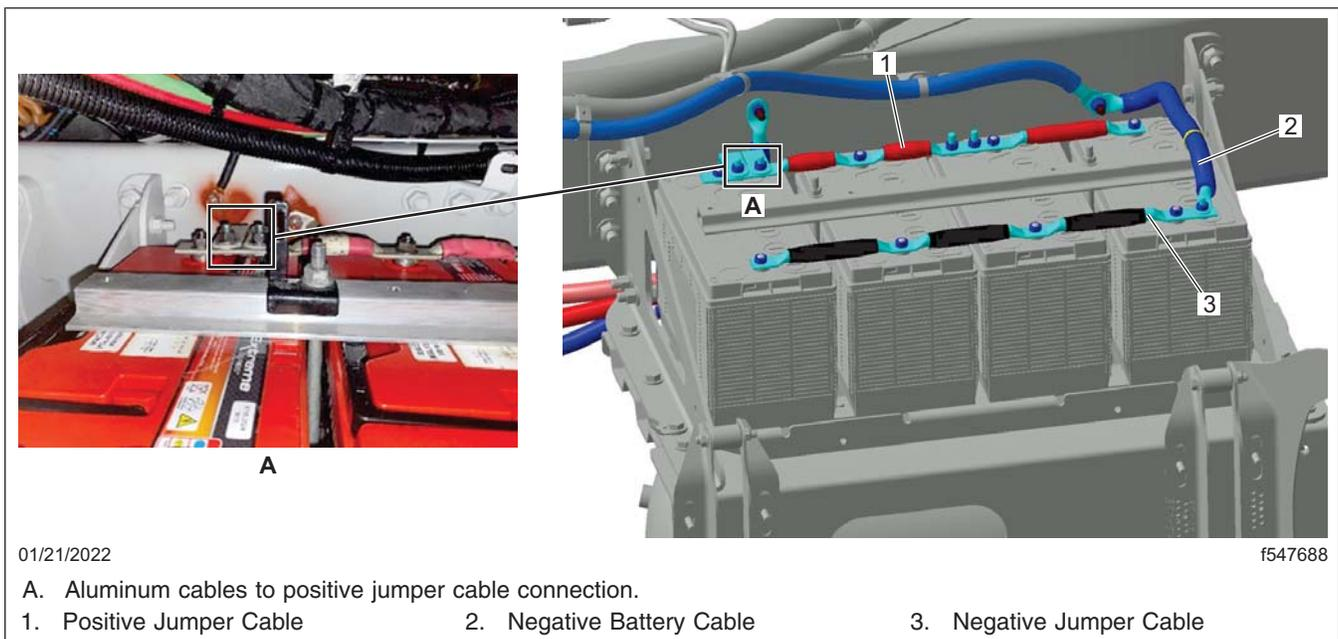

Fig. 8, Aluminum Cables to Positive Jumper Connection
5. Remove the two nuts that attach the two positive aluminum battery cables to the positive battery jumper cable, then disconnect the two positive aluminum battery cables from the positive battery jumper cable. See Fig. 8.